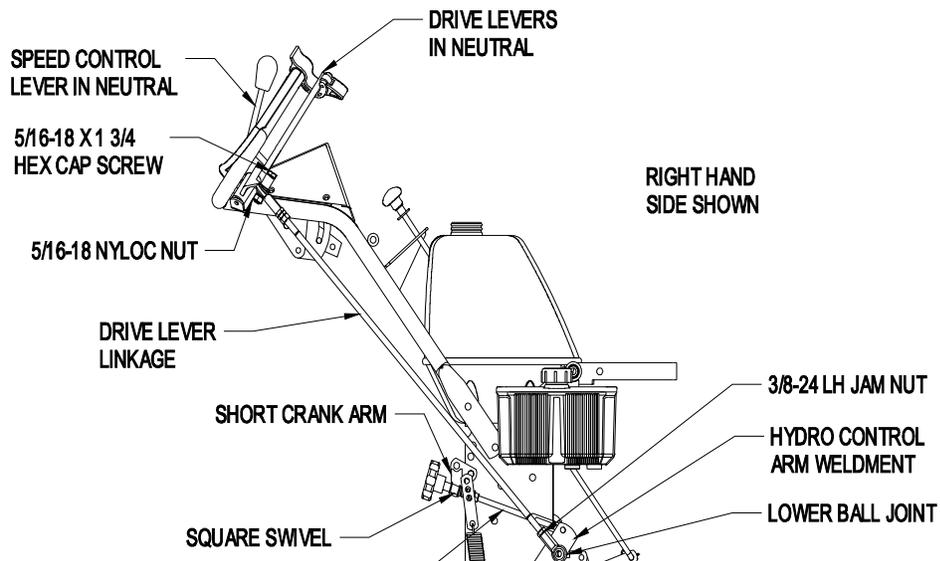
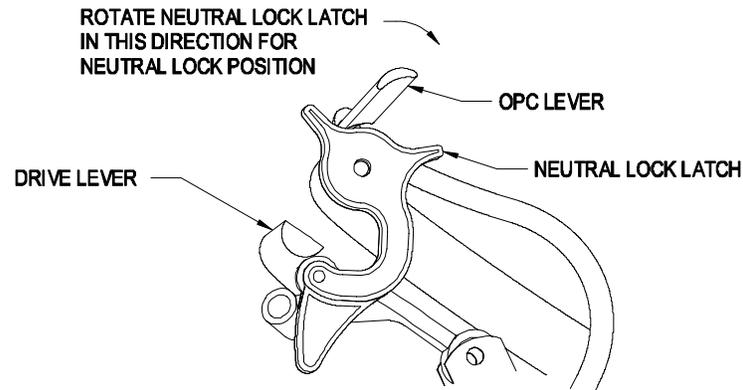
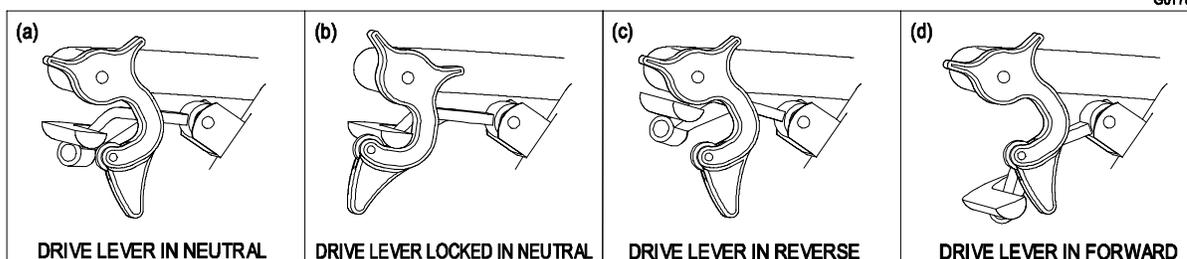

FIGURE 4
FIGURE 6
FIGURE 7
Install a 5/16" SAE washer and fasten with a 3/32" x 1/2" cotter pin from bolt bag. Repeat on opposite side of unit (See Figure 4).
Refer to figure 4. Position speed control lever in neutral. Position drive levers in neutral and engage the neutral lock latches (See Figure 7(b)). Drive lever linkages are shipped with upper ball joints installed. Thread a 3/8-24 LH jam nut, from the bolt bag, onto the lower end of each drive lever linkage. Identify the lower ball joints installed on hydro control arm weldments. Thread lower end of each drive lever linkage into the lower ball joint until hole in upper ball joint aligns with hole in drive lever. Install 5/16-18 x 1 3/4 hex cap screws and 5/8-18 nyloc nuts from the bolt bag and tighten. This will give an approximate setting for drive lever linkages; you will need to refer to Section 5.2.10 step d to complete the drive lever linkage adjustment.
- 4.1.2 Operator Presence Control (OPC) Levers: Located on the upper handle assembly directly above the handle grips (See Figure 6). **When these levers are depressed, the OPC system senses that the operator is in the normal operator's position. When the levers are released, the OPC system senses that the operator has moved from the normal operating position** and will kill the engine if either the speed control lever is **not in the neutral** position or the **PTO is engaged**.
- 4.1.4 Drive Levers: Located on each side of the upper handle assembly directly below the handle grips (See Figure 6). These levers individually control the speed and direction of each drive wheel. When the speed control lever is moved out of the neutral position and the neutral lock latches are moved into the drive position, as shown in Figure 7, and the drive levers are released, the drive wheels are engaged in the forward direction.
- 4.1.5 Neutral Lock Latch: Located at the end of the handles. The purpose of these latches is to allow the operator to lock the drive levers in a "neutral" position where neither of the drive wheels are engaged in either a forward or reverse direction. (See Figure 6).
To lock the drive levers in “**neutral lock**”, squeeze the drive levers to the “neutral” position See Figure 7 (a). (Do Not squeeze at the drive levers all the way back as this will cause the drive wheels to go into the full reverse direction). Place thumbs on the inner thumb lobe of the neutral lock latches and rotate them to the “neutral lock” position. See Figure 7 (b). Release the drive levers.
To place the drive levers in the “**forward**” position, slightly squeeze the drive levers while placing thumbs on the outer thumb lobe of the neutral lock latches (or the index finger on the front lobe) and rotate them from under the drive levers. **Slowly** and **carefully** release the drive levers. See Figure 7 (d).
To place the drive levers in the “reverse” position, squeeze the drive levers past the neutral position. See Figure 7 (c).
For reverse: Squeeze both drive levers into the reverse position. See Figure 7 (c).
- 4.3.6 To Stop: Squeeze drive levers back to the “neutral” position. See Figure 7 (a) Move neutral lock latches into the “neutral lock” position. See Figure 7 (b) and release drive levers. Move the speed control lever to the neutral position.